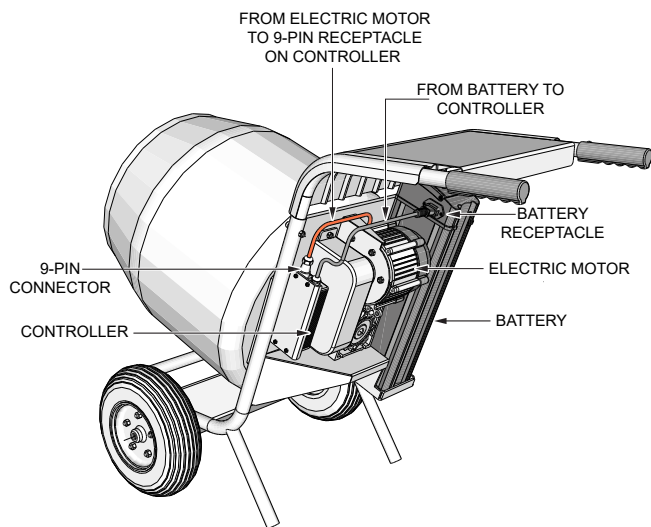

Figure 17. Controller Power Cord
3. Make sure the **controller power cord** is plugged into the **battery power receptacle** as shown in Figure 17.
4. Make sure the **electric motor power cord** is plugged into the **controller 9-pin receptacle** as shown in Figure 17.